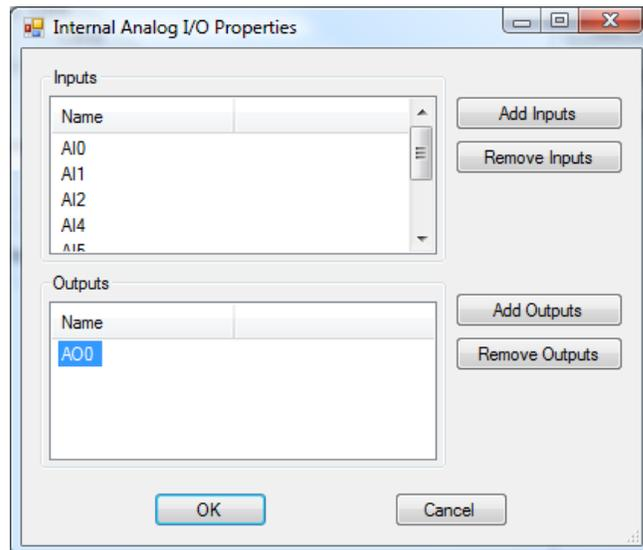

Figure 2-9 - AO0 Installed in Analog I/O
- The Analog Output AO0 is now shown in the outputs pane. Refer to Figure 2-9. Click **OK** to close the *Internal Analog I/O Properties*. Click **OK** to close the *ICM-BB-P13-XX Properties*.